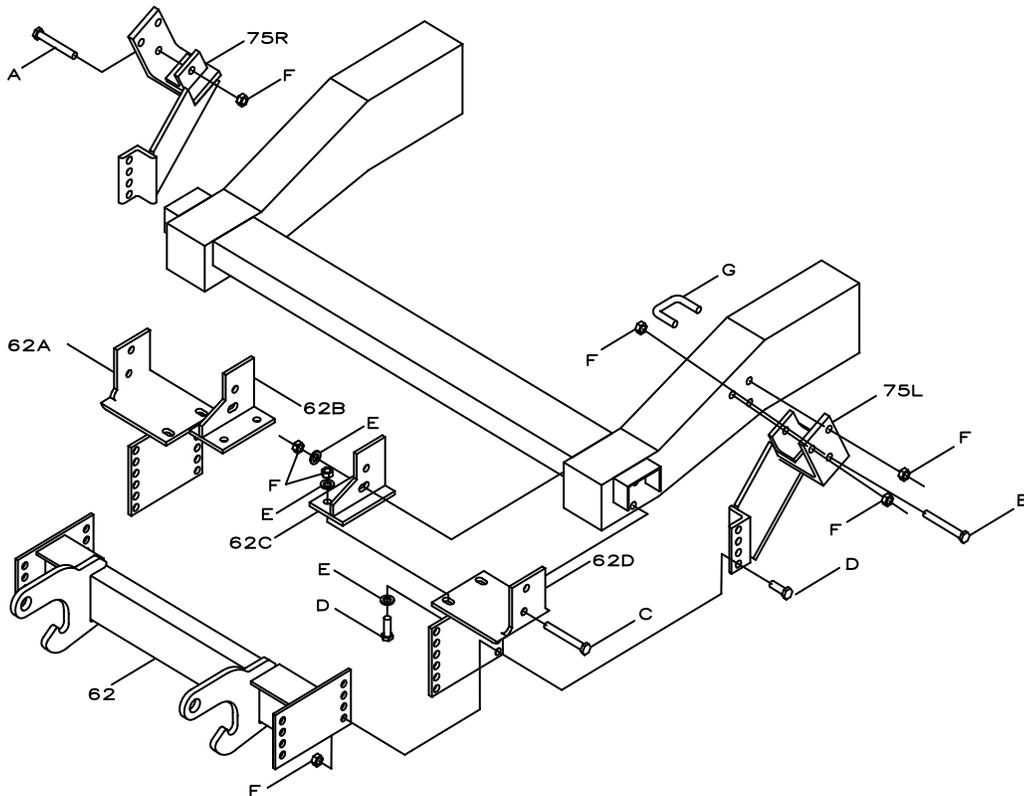

Figure 1
1. Position the PUSH BEAM SUPPORT PLATE (LH) (Ref. 62D, Figure 1) to the front outside of the truck frame as shown in Figure 1. Place the PUSH BEAM SUPPORT PLATE INSIDE MOUNT (LH) (Ref. 62C, Figure 1) on the other side of the frame rail and bolt through the frame using two ½" x 13 – 6" HEX HEAD BOLTS, ½" HARDENED WASHERS, and ½" x 13 HEX HEAD SELF LOCKING NUTS. Insert two ½" x 13– 2" HEX HEAD BOLTS with ½" HARDENED WASHERS through the bottom of the PUSH BEAM SUPORT PLATE (LH) and secure using ½" x 13 HEX HEAD SELF LOCKING NUTS, with two ½" HARDENED WASHERS.
2. Using the same procedure as above, install the PUSH BEAM SUPPORT PLATE (RH) and PUSH BEAM SUPPORT PLATE INSDE MOUNT (Ref. 62, Figure 1).
3. Position the PUSH BEAM ASSEMBLY (Ref. 62, Figure 1) between the PUSH BEAM SUPPORT PLATES and secure using ½" x 13- 2" HEX HEAD BOLTS, and ½" x 13 HEX HEAD SELF LOCKING NUTS. Install only the front two bolts on each SUPPORT PLATE.
4. Position the ANGLE BRACKET (LH) (Ref. 75L, Figure 1) to the truck frame. With the frame mount end of the ANGLE BRACKET held tightly against the bottom of the frame mark, drill the bolt holes to attach the ANGLE BRACKET. Secure the ANGLE BRACKET to the PUSH BEAM SUPPORT PLATE and PUSH BEAM ASSEMBLY using two ½" x 13- 2" HEX HEAD BOLTS, and 1/2" x 113 HEX HEAD SLE FLOCKING NUTS. Secure the ANGLE BRACKET to
5. Install the ANGLE BRACKET (RH) (Ref. 75R, Figure 1) using the same procedure as above, but with a $\frac{1}{2}$ " x 13- 4 $\frac{1}{2}$ " HEX HEAD BOLT.